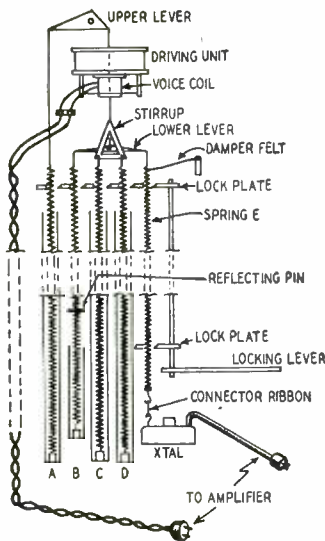

Fig. 5—Reverberation control unit. Springs delay sound, create "live" music.
Hammond organs are often used in homes and small halls where the room is either acoustically “dead” (sound is absorbed by rugs and draperies) or too small to allow long duration echoes. Hammond therefore created an artificial reverberation control unit, Fig. 5. The reverberation control is an electro-mechanical device which introduces multiple echoes by reflections within a network of coil springs. The unit is about 4 x 5 inches in cross-section and about 4 feet high. It is concealed within a tone cabinet such as the DR-20.
The reverberation driver is a moving coil assembly similar to a dynamic speaker without a cone. The audio-frequency coil movement is transmitted to the stirrup directly under it (Fig. 5). The two enclosed springs (C, D) under the stirrup hold it in position but permit it to move freely up and down; the spring at the far left (A) balances the pull of the others. These three springs
The same wave from the stirrup (Fig. 5) also travels down the second spring from the left (B), which enters a short oil tube. From the bottom of